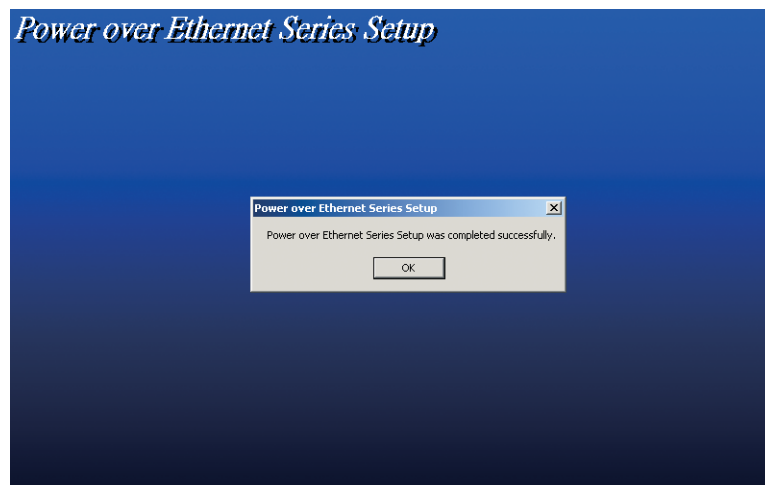

Figure 3-3.
6. When installation finishes, click "OK" button to finish. See Figure 3-3.